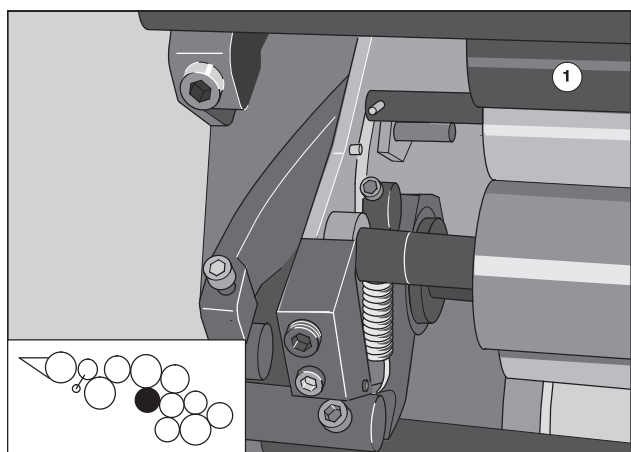

Fig. 20 Removing the 2nd ink transfer roller
1. Press the ink transfer roller (Fig. 20/1) towards the impression cylinder out of the bearing and remove.